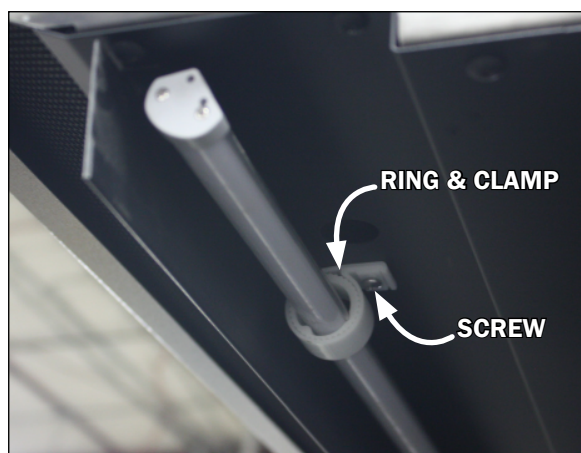

Fig. 11 LED light & ring/clamp
2. Remove the screws from the light clamps (Fig. 11) while keeping ahold of the light. Once the screws are removed the light rod will come away from the case with the clamps still holding to the light.
3. Line-up the closed clamps (Fig. 11) and light rod with the existing screw holes on the case and re-attach.